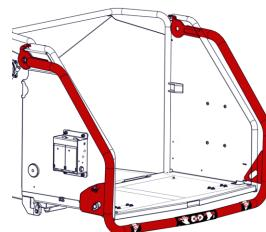

Figure 16 - Red Safety Bar
5. Press the Red Safety Bar (Figure 16).